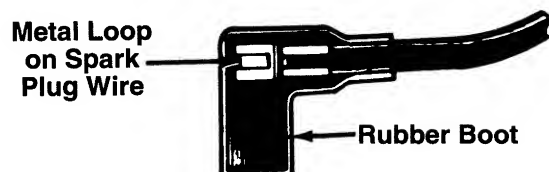

FIGURE 10.
1. Attach spark plug wire to spark plug. Make certain the metal loop on the end of the spark plug wire (inside the rubber boot) is fastened securely over the metal tip on the spark plug. See figure 10.